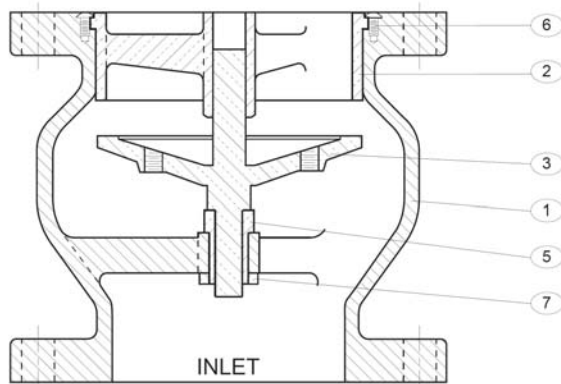

Figure 5. Regulated Exhaust Device
VALVE CONSTRUCTION: The standard body is cast iron with a bronze disc. See specific Materials List submitted for the order if other than standard cast iron construction. The general details of construction are illustrated in Figure 5. The body (1) is flanged for connection to the pipeline. See page 2 for installation to the pipeline.